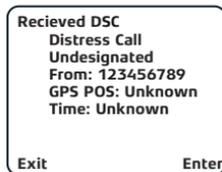

Figure 26
4. The selected call details will be displayed (fig 26).